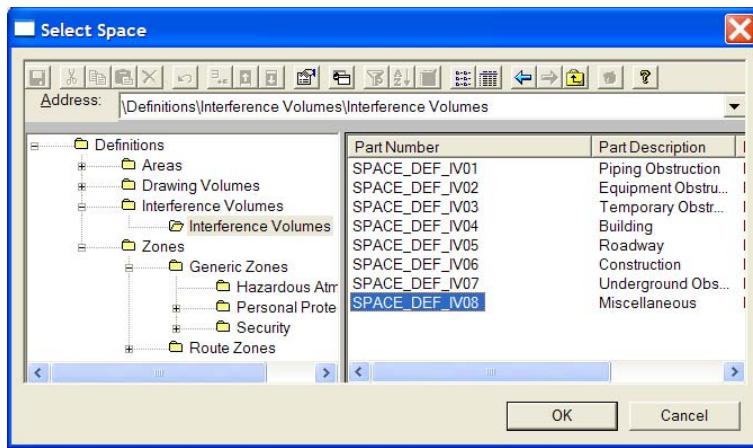

Figure 22: Select Type as Interference Volume
6. Click the **More...** option in the **Type** drop-down list on the **Place Volume Along Path** ribbon to specify the type of volume to be placed as indicated in Figure 22.